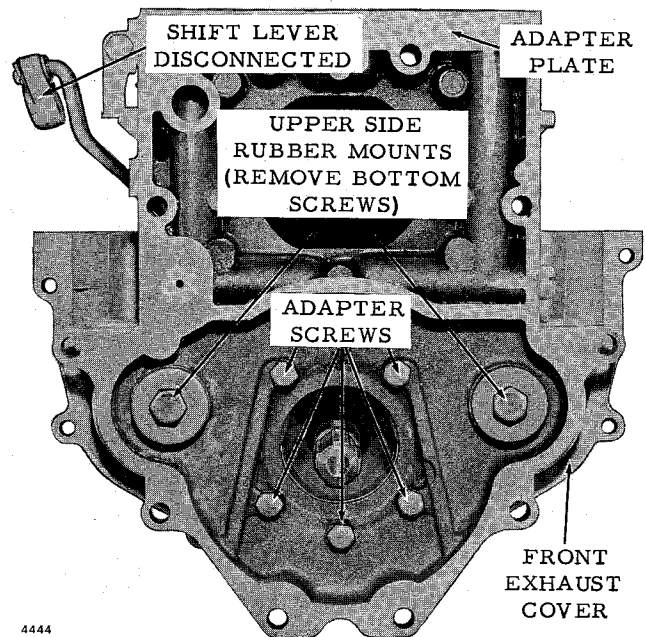

Figure 6-9. Power Head Adapter Screws
d. To remove adapter plate, remove five screws attaching adapter plate, to outer exhaust housing. Remove two upper rubber mount to adapter screws. See Figure 6-9. Lift adapter plate with tubes out of outer exhaust housing, being careful to avoid damage to water tubes, grommets, and couplings. Remove upper mounts from front exhaust cover.